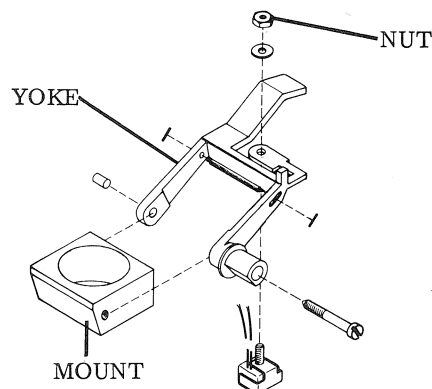

Figure 3-30. ERASE HEAD & YOKE ASSEMBLY
19. Erase Head & Yoke Assembly (900 Series R Models only) Figure 3-30